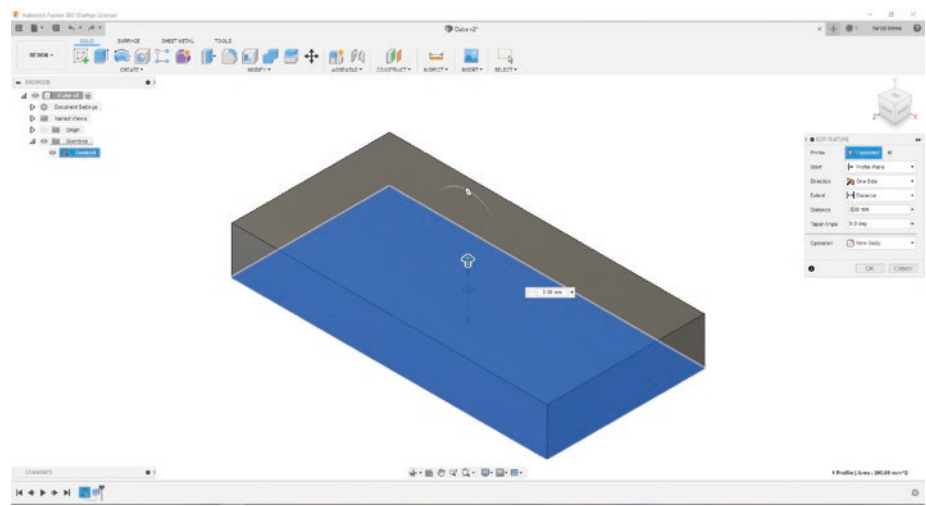

Figure 3-58. *Extrude only 3mm*
8. Edit this to be 3mm instead of 5mm in the Distance text box and press enter. See Figure 3-58.